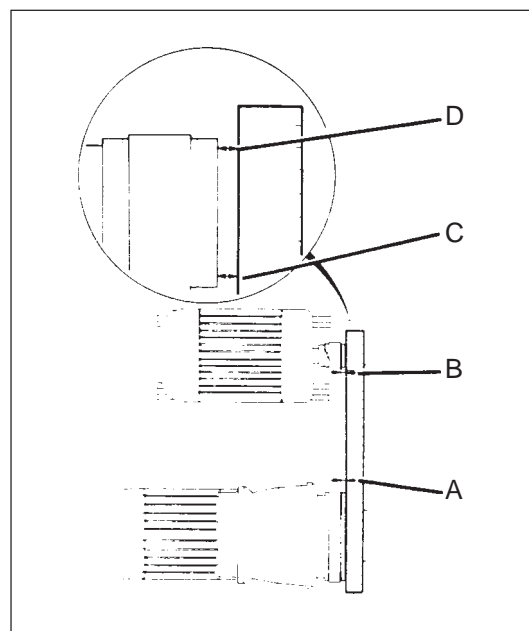

Figure 8. Alignment of washing motor
- measure distance A (Figure 8) between the straight-edge and the belt at the incoming pulley of the belt transmission
- adjust the position of the washer motor so that distance B (Figure 8) between the straightedge and the belt at the belt pulley of the wash motor is equal to distance A
- measure distance C (Figure 8) between the inside edge of the motor belt pulley and the straightedge
- adjust the motor bias position so that distance D (Figure 8) between the straightedge and the outside edge of the motor belt pulley is equal to distance C.